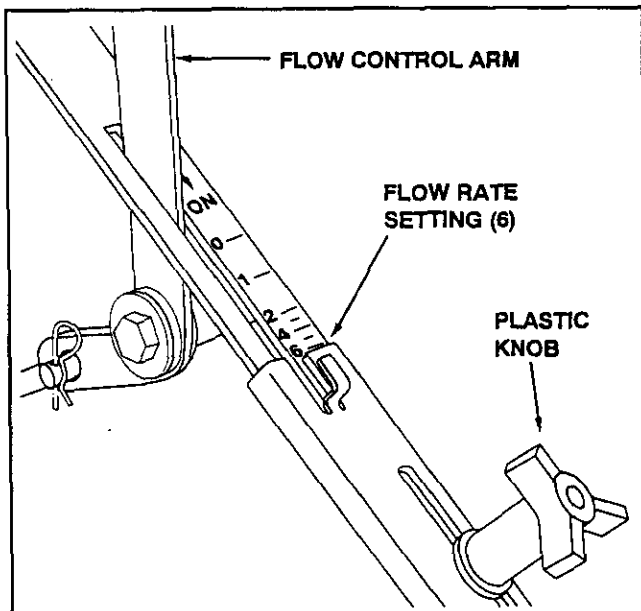

FIGURE 7
- Loosen the knob and adjust the flow control gauge to the recommended setting. Retighten the knob. See figure 7.